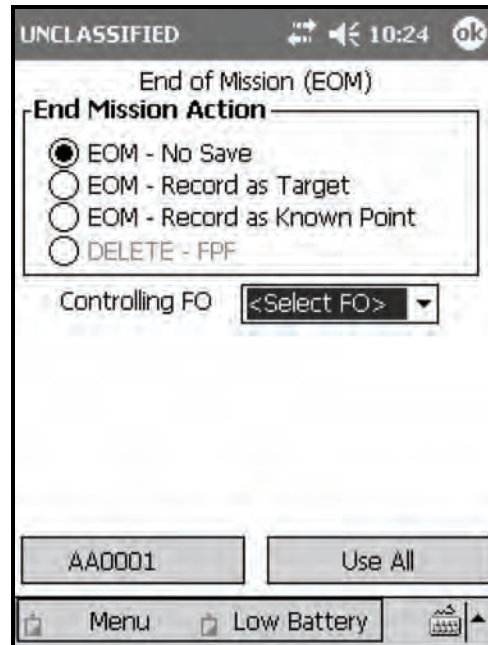

Figure 18-8. End of Mission screen.
(25) Select the <Target> button.
(26) The <Target> screen displays.
(27) Select Subs Adjust.
(28) Change MOF from Adjust to FFE.
(29) Select Use All.
(30) The Solution/Gun Orders screen displays.
(31) Select Shot.
(32) Select the <Target> button.
(33) The <Target> screen displays.
(34) Select EOM.
(35) The End of Mission screen (Figure 18-8) displays. The EOM screen enables the operator to end the active mission and to discard the data or save it as a target or a known point.